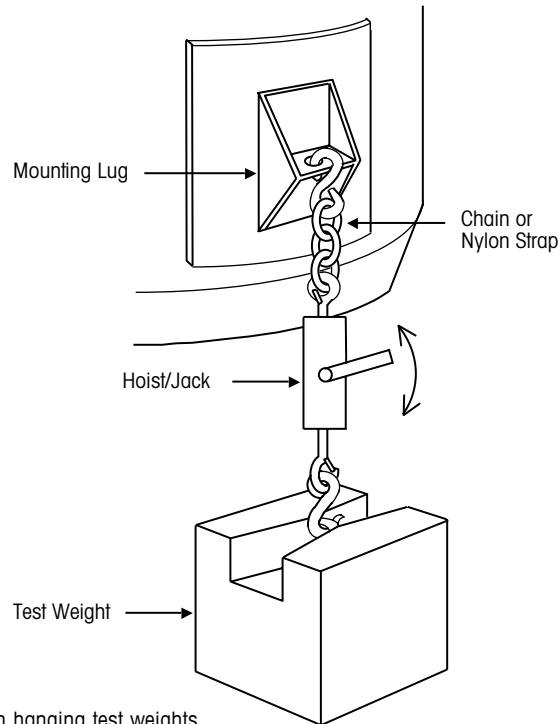

Figure 22: Tank calibration with hanging test weights
- 1. Test weights.** Using test weight is the most accurate method and is required for calibration of commercial (legal-for-trade) scales. Calibration with weight is quite easy to do with small scales, but it becomes increasingly difficult and impractical as scale capacity increases. Tanks and vessels do not have a flat surface upon which to load the weights, so the loading method must be planned in advance; for example, provide lugs on the side of the tanks from which to hang weights, as shown in Figure 22.